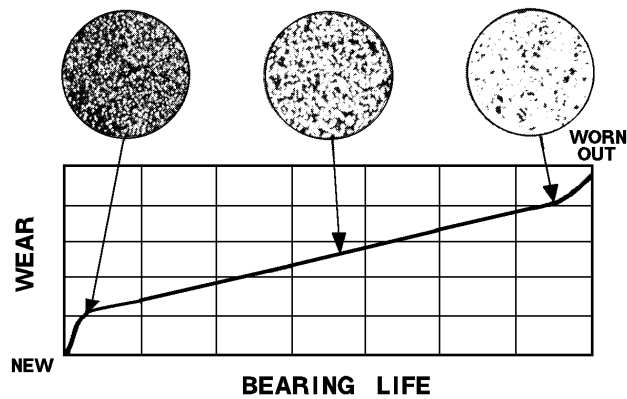

FIGURE 7-14.
- **Sleeve bearings** - Inspect color of surface. Refer to Figure 7-14.